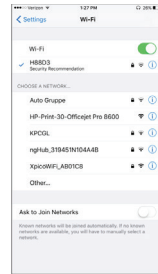

Figure 7: Available WiFi networks
2. Search for available Wi-Fi networks. See Figure 7.